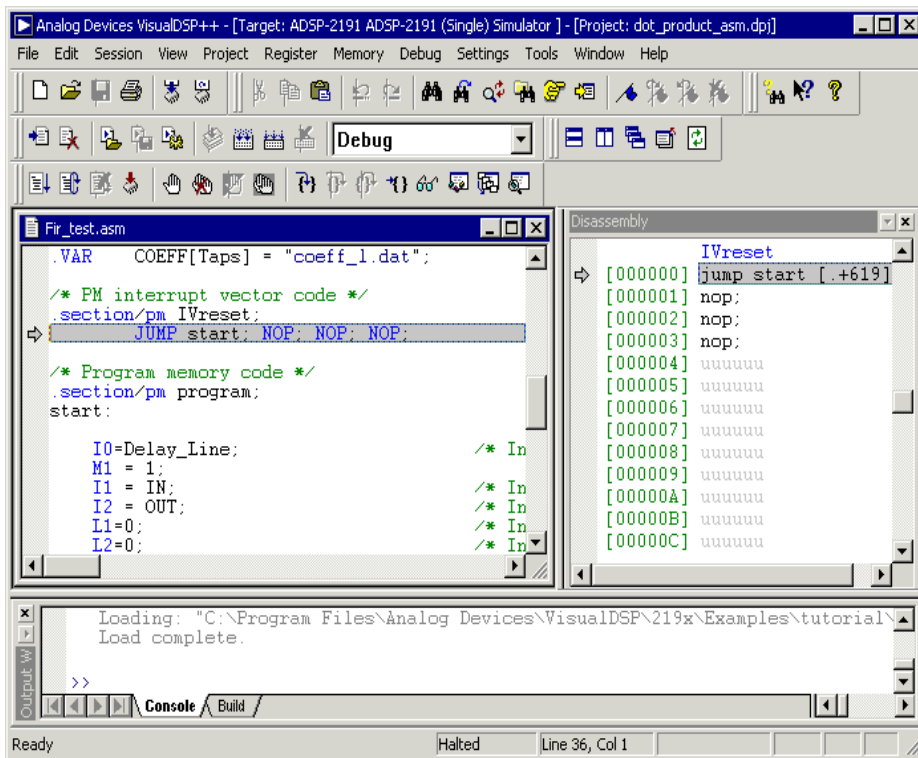

Figure 2-24. Loading the FIR Program
- b. Double-click FIR.DXE to load the program in an editor window (Figure 2-24).